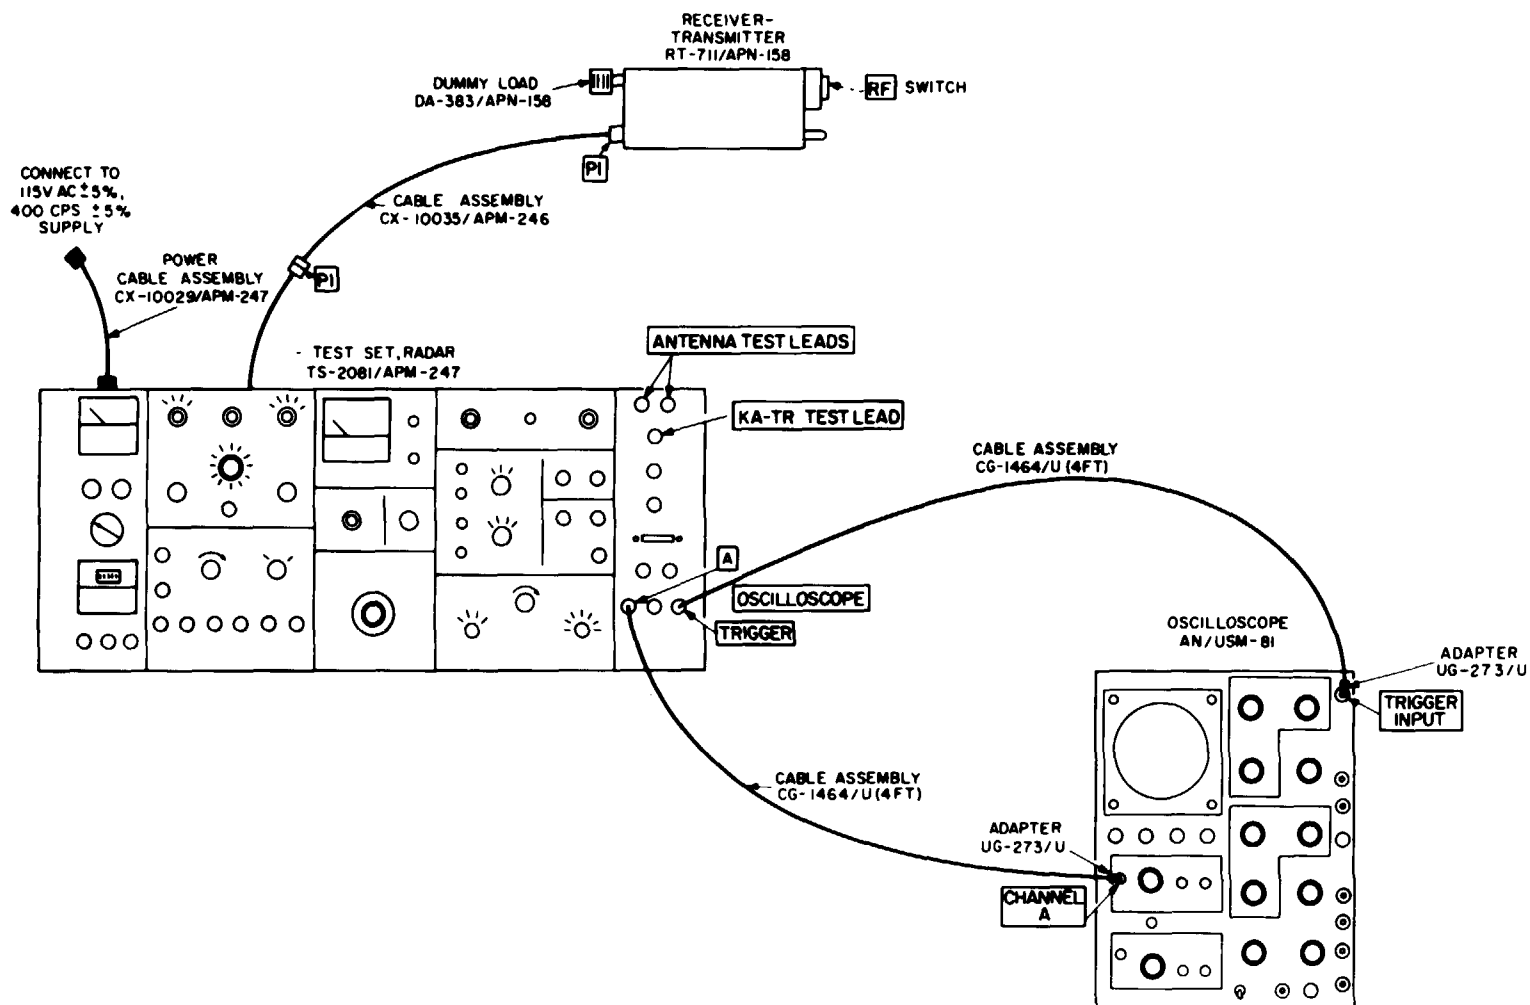

Figure 4-2. 115-volt, 400-cps power and operating voltages test connection diagram.
*b. Test Connections and Conditions.* Connect the equipment as shown in figure 4-2.